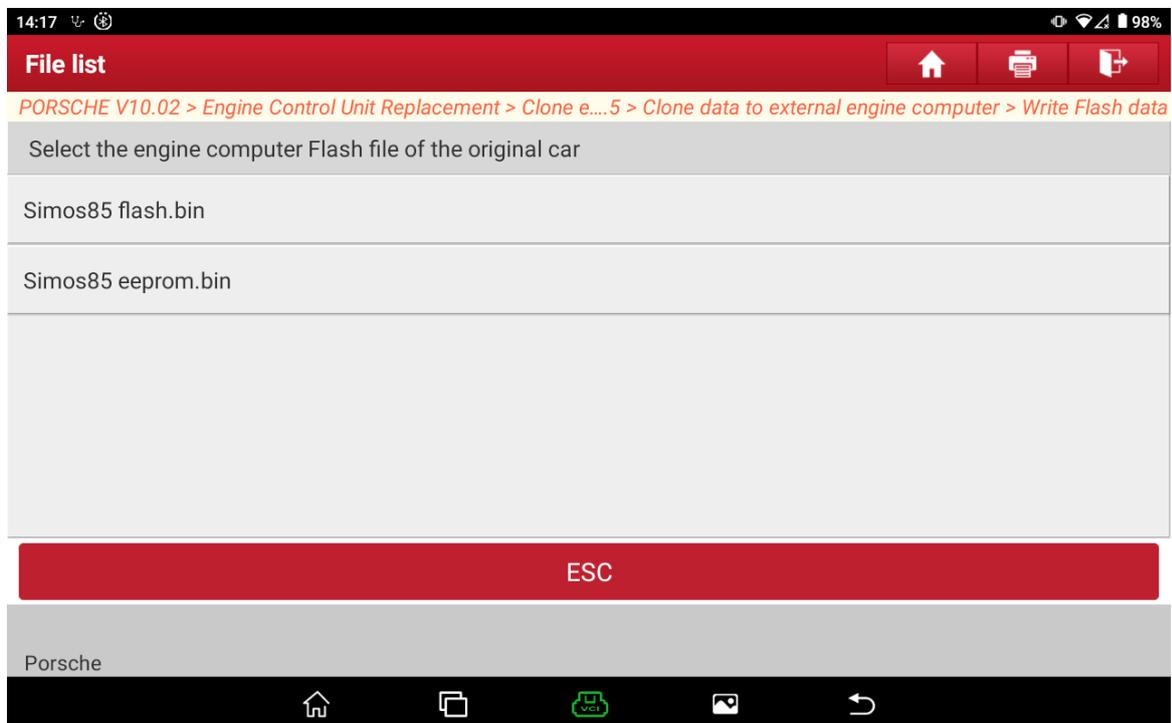
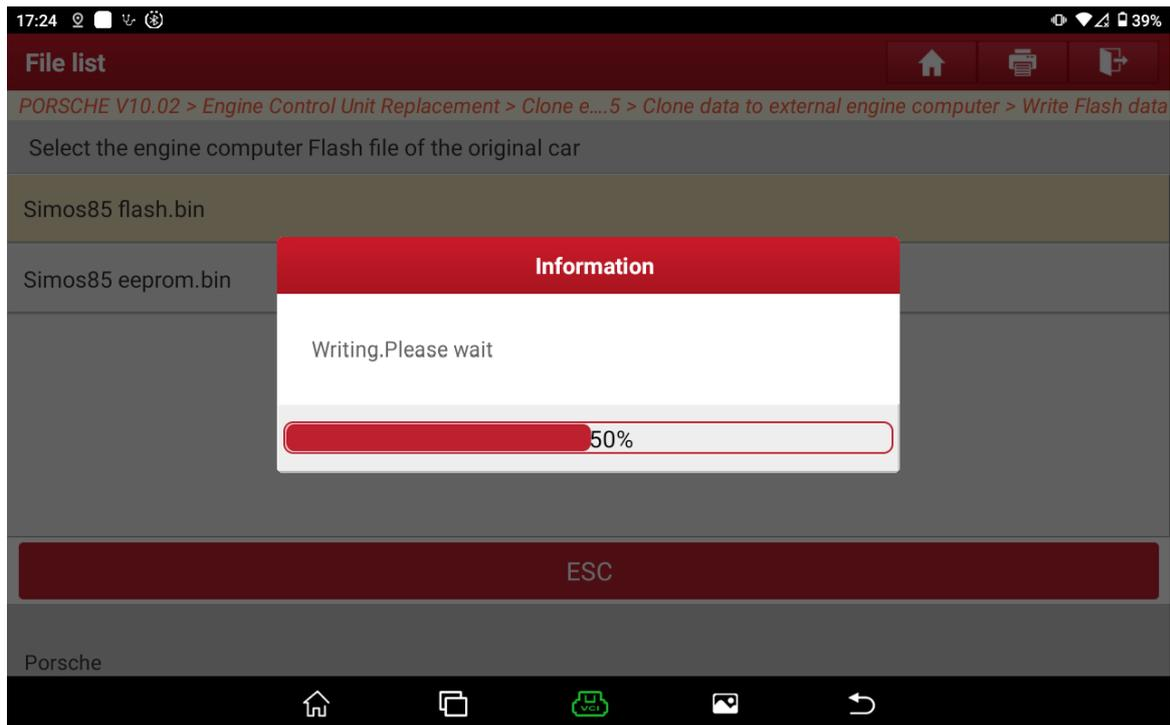
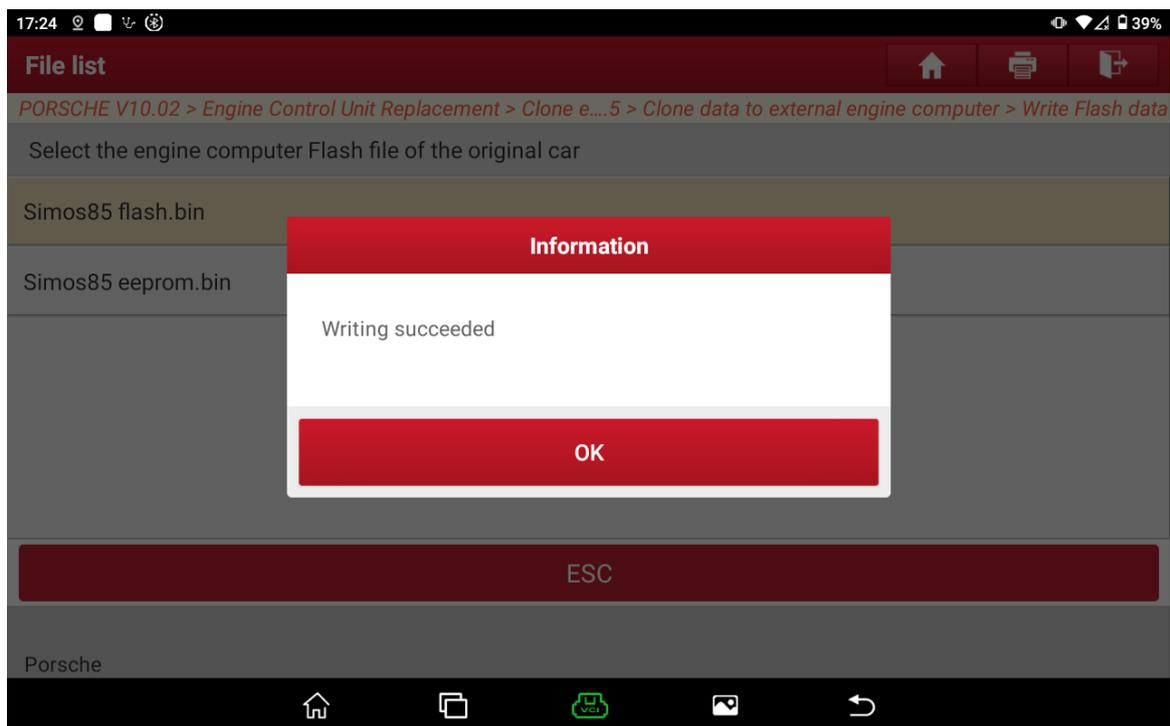

Figure 19
Figure 20
Figure 21
12. Execute **【Write Flash Data】**, select the backed up Flash data file, and the software will automatically modify the data, as shown in Figure 19, Figure 20, and Figure 21: